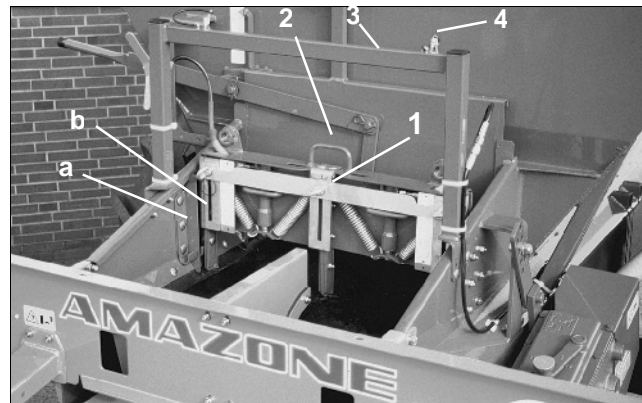
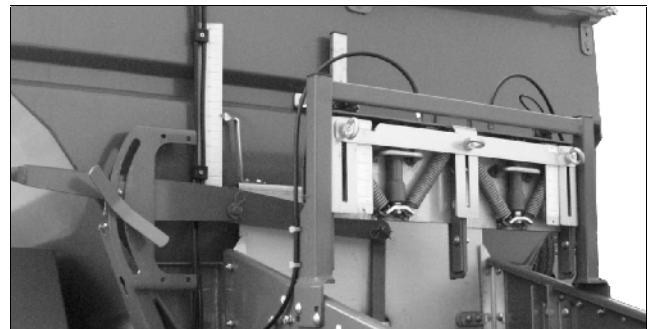

Fig. 29
Fig. 30
- **Double shutter slide** (Fig. 29/1):
Position a (rear) (Fig. 29/a):
Position b (front) (Fig. 29/b):
- Raise the shutter slide (Fig. 29/1) with the aid of the handle (Fig. 29/2) and hook into the parking position (Fig. 30) on the carrying frame (Fig. 29/3).
- secure by using the lynch pin (Fig. 29/4).